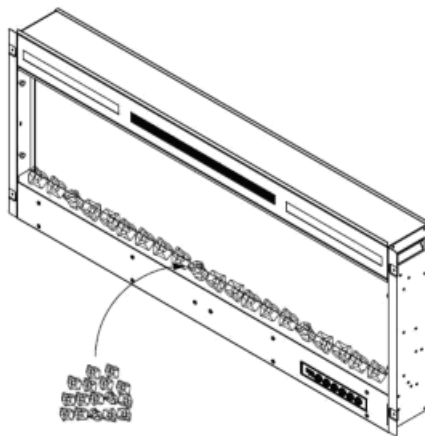

Figure 2.(Crystal medias)
- D. Then carefully place crystal embers into the bottom tray on the front of the appliance as illustrated. Apply an even layer from side to side. Figure 2.